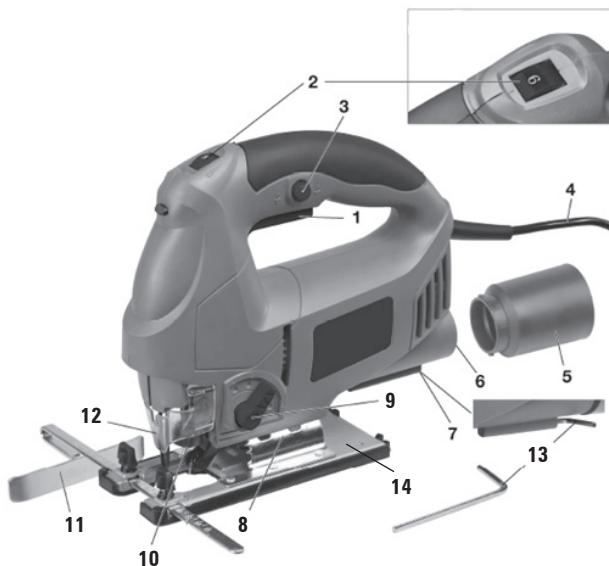

FIGURE 1
Lift the blade guard (item 12 - figure 1), turn the lever (a) according to the direction of the arrow and hold. Insert the blade in the groove (b) and push it in to the end. During this procedure, the back part of the blade must be well embedded in the groove of the bearing of the tool's blade support. Release the lever and let it go back to place to lock the blade. Lower the blade guard.
Removing the blade: Lift the blade guard (item 12 - figure 1), turn the lever (a) according to the direction of the arrow, the blade (b) will be ejected due to tension forces. Release the lever and lower the blade guard.
Adjusting the excursion: The adjustable blade excursion (item 9 - figure 1), which ranges from "1", for hard materials, up to "3", for soft materials, when combined with the adequate speed (picture 6), enhances the power tool's performance, resulting in a better work and longer life span.
Dust removal: If necessary, connect the vacuum cleaner's flexible tube to the saw's vacuuming opening, use the supplied adapter (item 5 - picture 1). Push the adapter into the fitting guide in the opening (item 6 - figure 1) and lock by rotating it to the left as shown in the picture beside.